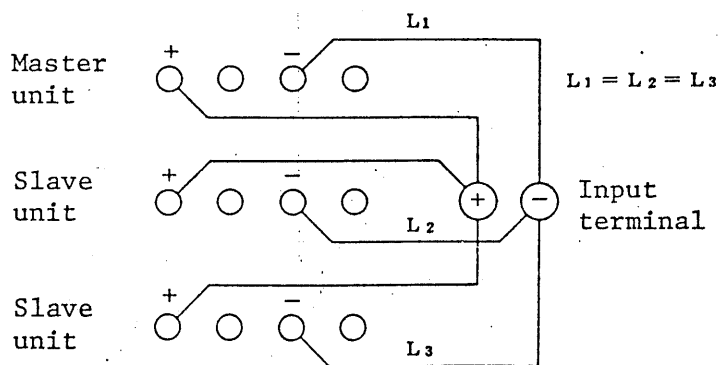

Figure 2-15-1.
1. Turn off the power supply switch. Connect the terminals of each of the units as shown in Fig. 2-15-1. The length of the loading wire cables to each of the units should be approximately the same. Also, note if electrical potential of the negative input terminal of a unit is different from the others, the current generated by the unit will be imbalanced.